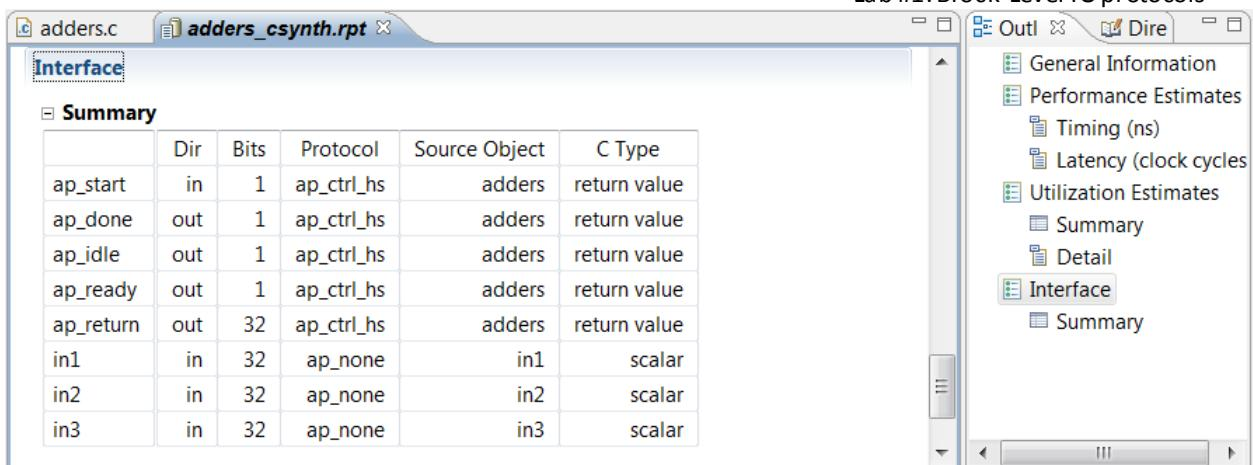

Figure 59 Interface Summary
The Interface summary and Outline tab are shown in Figure 59.
- Input ports In1, In2 and In3 are 32-bit inputs and have the IO protocol ap_none (as specified by the directives in Figure 59).
The block-level IO protocol allows the RTL design to be controlled independently of the IO ports. This IO protocol is associated with the function itself, not any of the data ports. The default block-level IO protocol is named ap_ctrl_hs and Figure 59 shows this protocol as being associated with the clock.